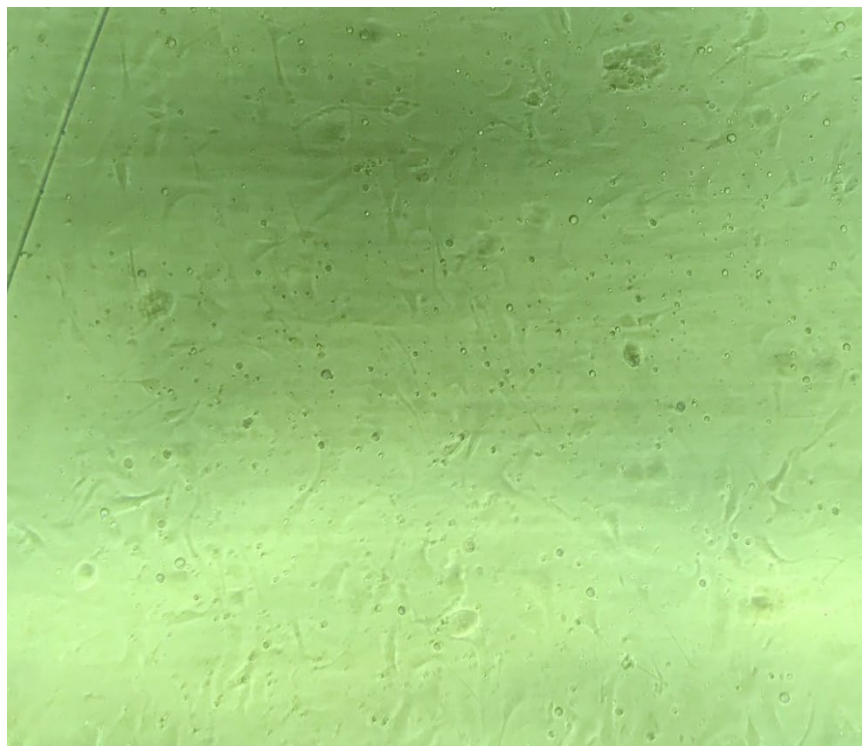

Figure 16. Example of optimal cell attachment in bottom channel (NPCs, Liver Quad-Culture)
2. Image several representative Emulations to ensure proper attachment is observed. See Figure 16. for examples of attachment in the bottom channel.